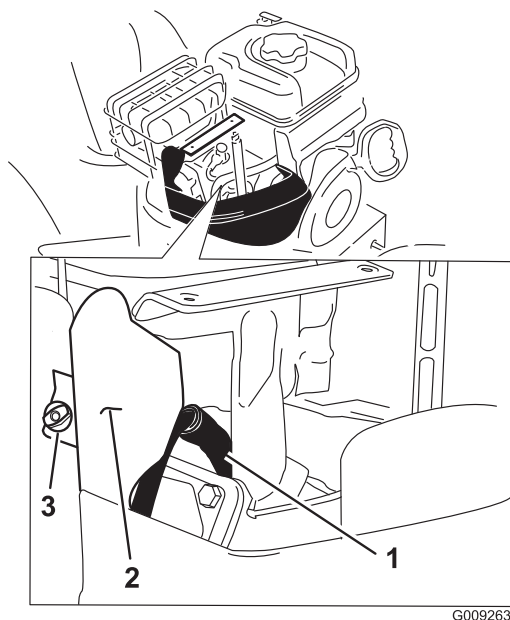

Figure 48
4. Remove the bracket thumb screw and the bracket (Figure 48).
5. Clean around the base of the spark plug (Figure 48).